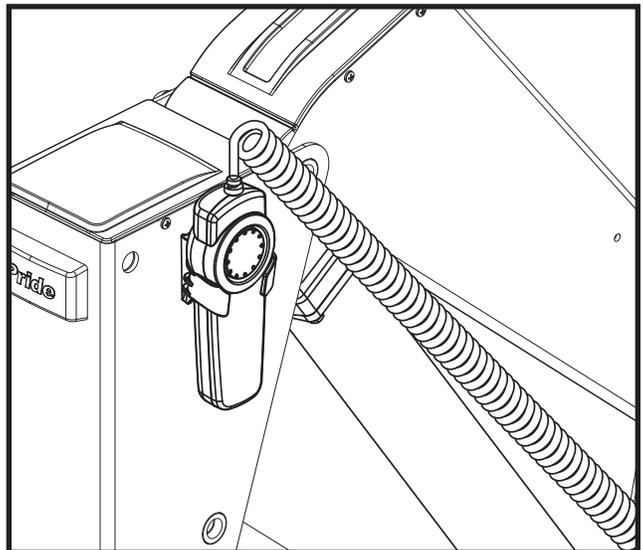

Figure 9. Hand Control
1. Press and hold the “DOWN” button. **See figure 9.** The lift will move the vehicle to its farthest forward stop, then lower to the ground. Once the platform has reached the ground, release the “DOWN” button.
6. Press and hold the "UP" button. **See figure 9.** The lift will move up to its highest lift point, then slide into the SUV or van. Once the mobility device is stowed completely within the vehicle, release the button.